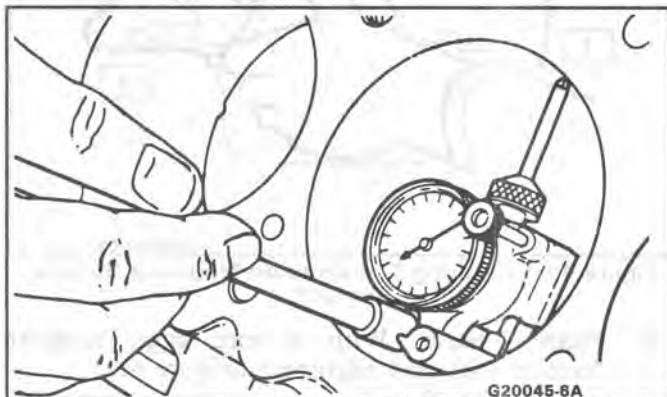

Figure 49 Measuring Cylinder Bore For Taper and Out of Round
- Cylinder bore, with bore gage J 8087 measure for wear, taper, runout and ridging (Figure 49)